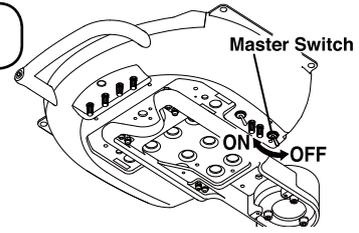
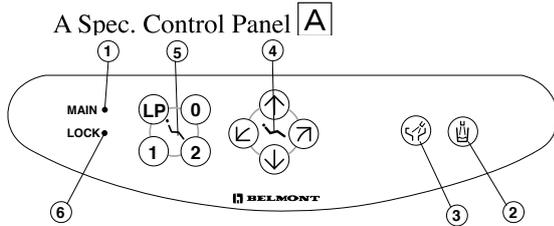
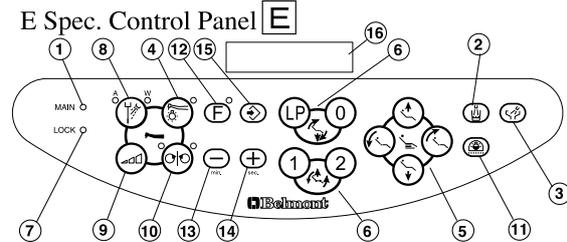

Fig.3-1 Master Switch
Fig.3-2 A Spec. Main Control Panel
Fig.3-3 E Spec. Main Control Panel
**(1) Master Switch (Fig.3-1, Fig.3-2 & Fig.3-3)**
Turn on the master switch located under the right hand side of the doctor table, the power indicator on the main control panel will then illuminate green. (Fig.3-2&3-3 ① )